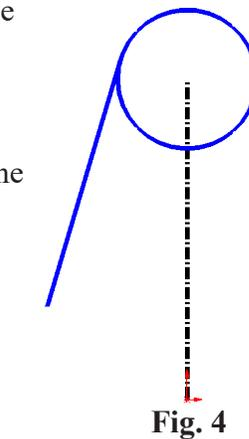

Fig. 4
Step 7. Click **Line**  (L) on the Sketch toolbar.
Step 8. Sketch **tangent line down from circle**, **Fig. 4**.